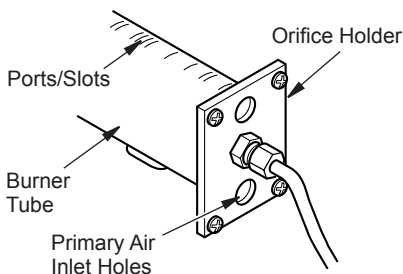

Figure 80 - Orifice Holder On Outlet Burner Tube
2. Inspect burner, pilot and primary air inlet holes on orifice holder for dust and dirt (see Figure 80).